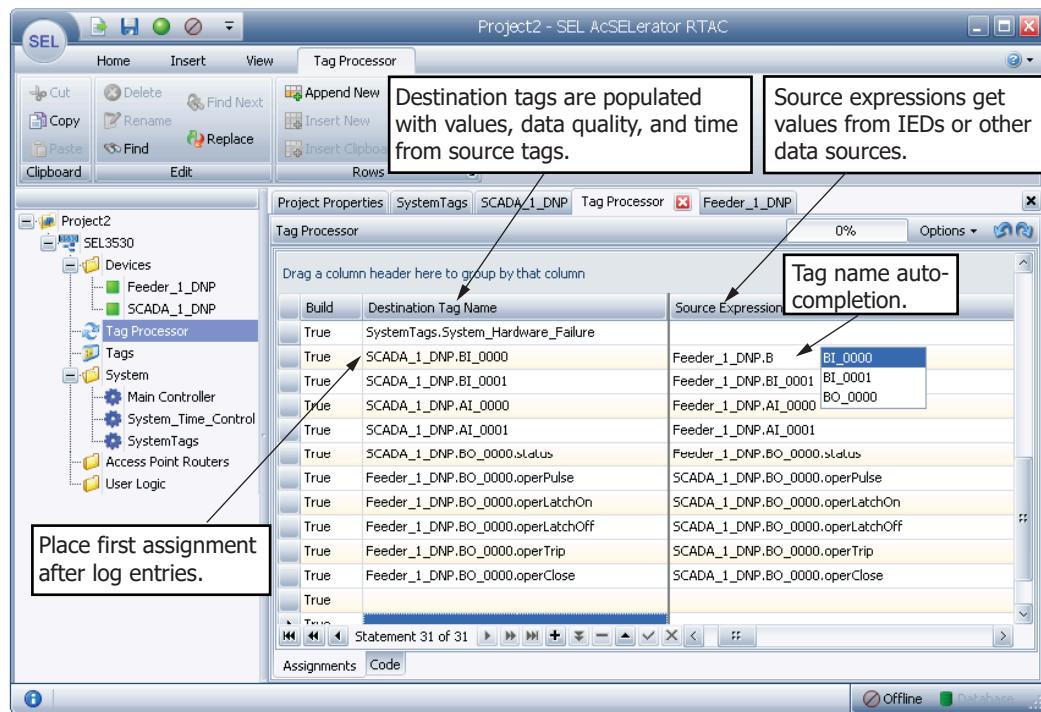

Figure 3.5 Simple Tag Mapping
- Step 10. Populate the **Destination Tag Name** column starting on the first available row after the analog inputs with the binary output status from SCADA_1. See *Figure 3.5*.
- Step 11. Finish populating the destination column with the BO structure from Feeder_1, as in *Figure 3.5*.
Step 12. Populate the Source Expression columns with Feeder_1 inputs and outputs as in *Figure 3.5*.